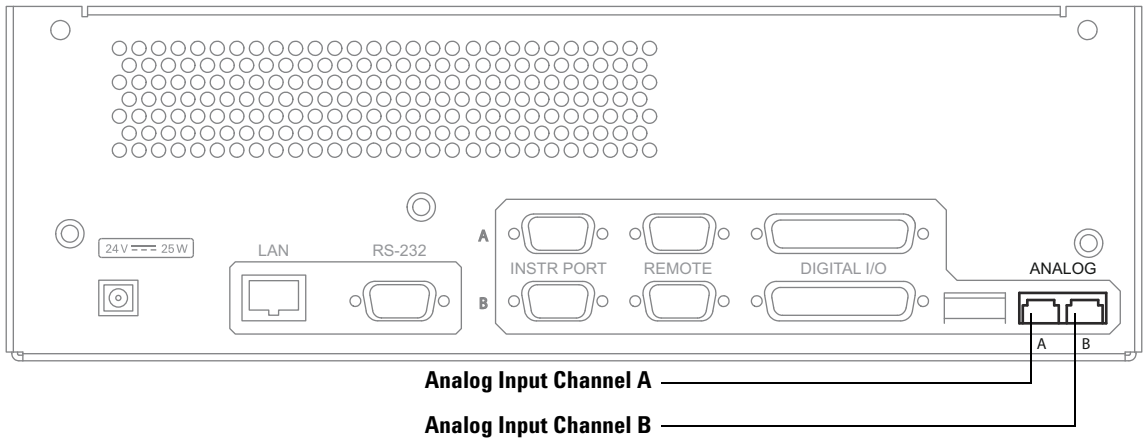

Figure 7 Analog Input (signal) connections
- 3 Connect the cable to the appropriate (A or B) analog input on the rear panel of the 35900E Series II (Figure 7).